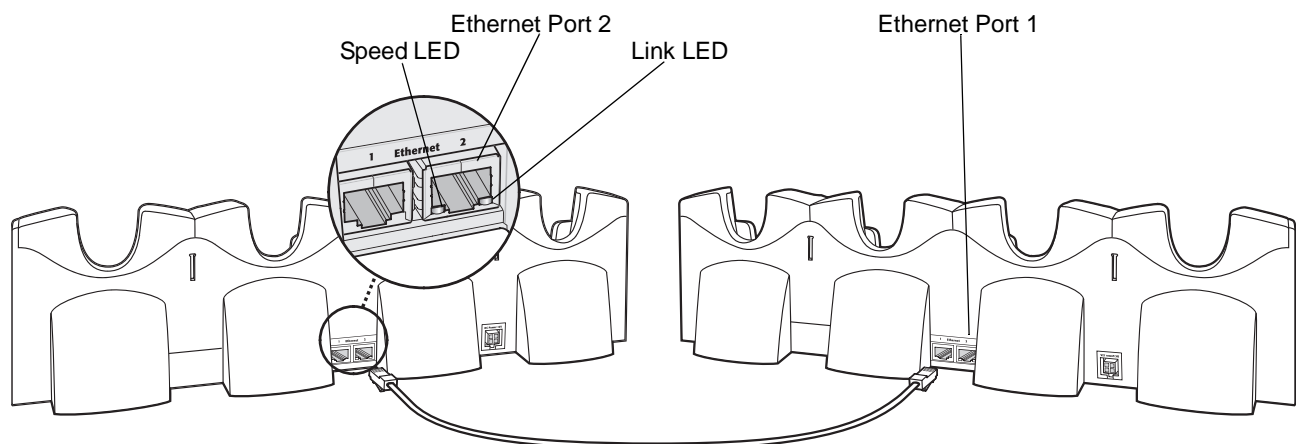

Figure 2-11 Daisy chaining Four Slot Ethernet Cradles
2. Connect an Ethernet cable to Port 1 of the first cradle as shown in Figure 2-11.